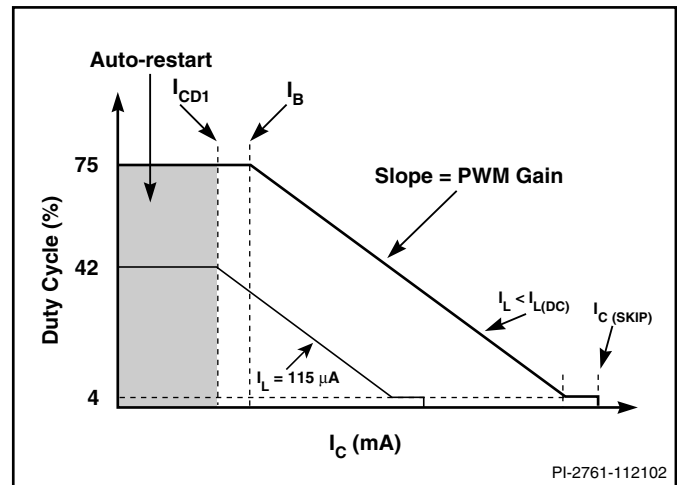

Figure 4. Relationship of Duty Cycle to CONTROL Pin Current.
*DPA-Switch* is an integrated switched mode power supply chip that converts a current at the control input to a duty cycle at the open drain output of a high voltage power MOSFET. During normal operation the duty cycle of the power MOSFET decreases linearly with increasing CONTROL pin current as shown in Figure 4. A patented high-voltage CMOS technology allows both the high-voltage power MOSFET and all the low voltage control circuitry to be cost effectively integrated onto a single monolithic chip.
The pulse width modulator implements voltage mode control by driving the output MOSFET with a duty cycle inversely proportional to the current into the CONTROL pin that is in excess of the internal supply current of the chip (see Figure 4). The excess current is the feedback error signal that appears across  $R_E$  (see Figure 2). This signal is filtered by an RC network with a typical corner frequency of 30 kHz to reduce the effect of switching noise in the chip supply current generated by the MOSFET gate driver. The filtered error signal is compared with the internal oscillator sawtooth waveform to generate the duty cycle waveform. As the control current increases, the duty cycle decreases. A clock signal from the oscillator sets a latch that turns on the output MOSFET. The pulse width modulator resets the latch, turning off the output MOSFET. Note that a minimum current must be driven into the CONTROL pin before the duty cycle begins to change.
To maintain power supply output regulation, the pulse width modulator reduces duty cycle as the load at the power supply output decreases. This reduction in duty cycle is proportional to the current flowing into the CONTROL pin. As the CONTROL pin current increases, the duty cycle reduces linearly towards a minimum value specified as minimum duty cycle,  $DC_{MIN}$ . After reaching  $DC_{MIN}$ , if CONTROL pin current is increased further by approximately 2 mA, the pulse width modulator will force the duty cycle from  $DC_{MIN}$  to zero in a discrete step (refer to Figure 4). This feature allows a power supply to operate in a cycle skipping mode when the load consumes less power than the *DPA-Switch* delivers at minimum duty cycle,  $DC_{MIN}$ . No additional control is needed for the transition between normal operation and cycle skipping. As the load increases or decreases, the power supply automatically switches between normal and cycle skipping mode as necessary.
The same resistor used for UV and OV also implements line voltage feed-forward that minimizes output line ripple and reduces power supply output sensitivity to line transients. This feed-forward operation is illustrated in Figure 4 by the different values of  $I_L$ . Note that for the same CONTROL pin current, higher line voltage results in smaller operating duty cycle. As an added feature, the maximum duty cycle  $DC_{MAX}$  is also reduced from 75% (typical) at a voltage slightly higher than the UV threshold to 33% (typical) at the OV threshold (see Figures 4, 7). Limiting  $DC_{MAX}$  at higher line voltages helps prevent transformer saturation due to large load transients in forward converter applications.  $DC_{MAX}$  of 33% at the OV